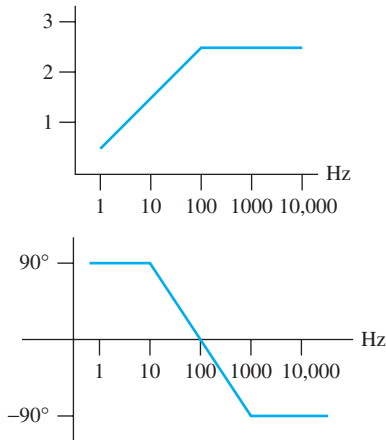

FIGURE P7.17 Frequency response for Problem 7.17.
7.17 (A) Determine type of the transfer function for Figure P7.17. Then determine the output voltage if input voltage $v_{in}(t) = 8 \cos(200\pi t - 45^\circ) + 5 \cos(200\pi t + 30^\circ)$.